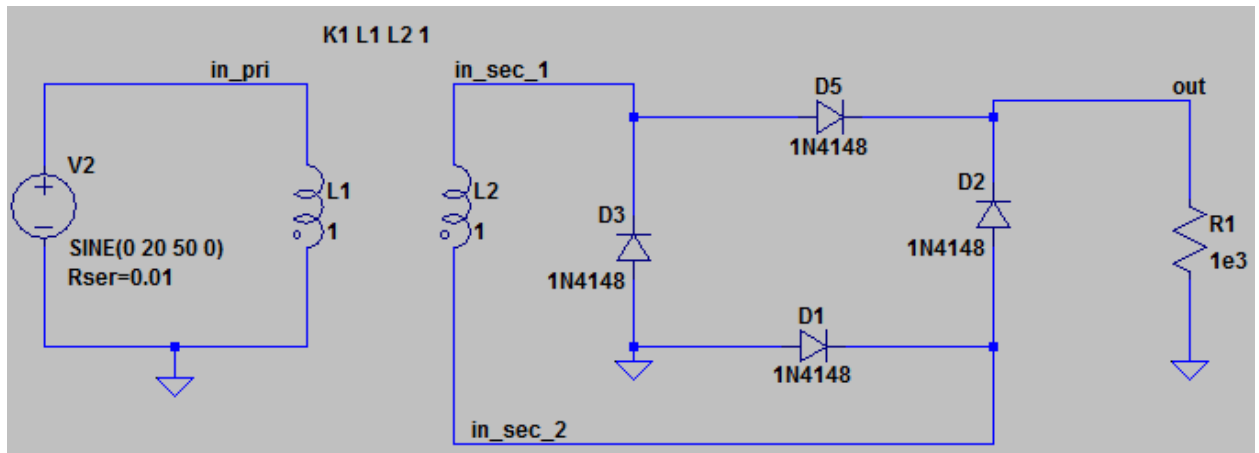

Figure 4
- b) Implement the circuit shown in figure 4 in LTSpice and observe the input and output voltage waveforms on CRO and Record their peak amplitudes.